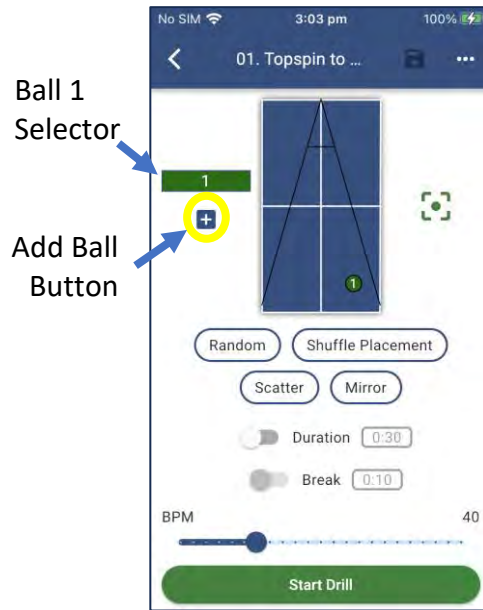
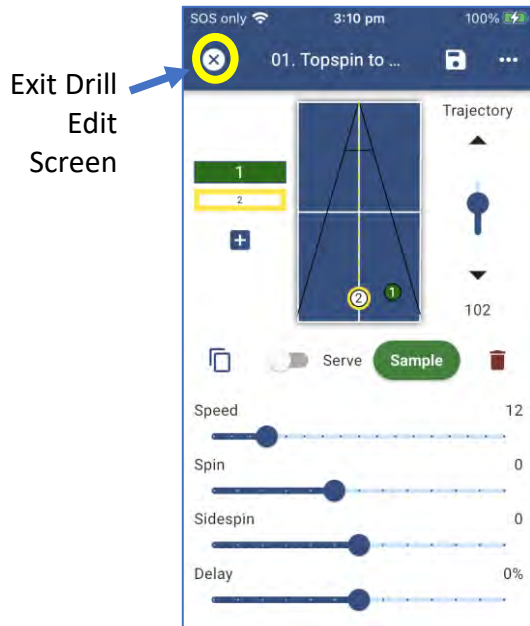

Figure 3-42
Figure 3-43
2. Press the Add Ball button “+” (Figure 3-42) below the Ball 1 Selector, to add an additional ball to this Drill. You will now see two balls in the Drill. (Figure 3-43) and you will be in Drill Edit mode.